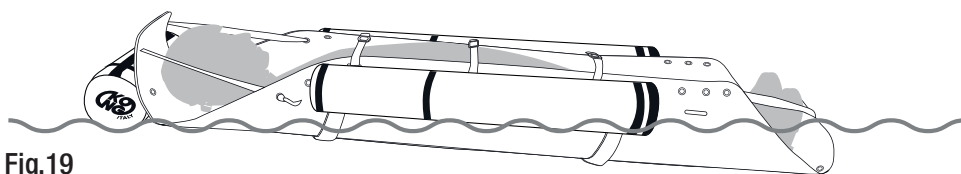

Fig.19
Buoyancy force Verified by using the optional kit 880020300KK FLOK-IT (fig. 19):	400 N (~40 kg)
- **Water transport (fig. 19)** with the kit 880020300KK FLOK-IT (P)